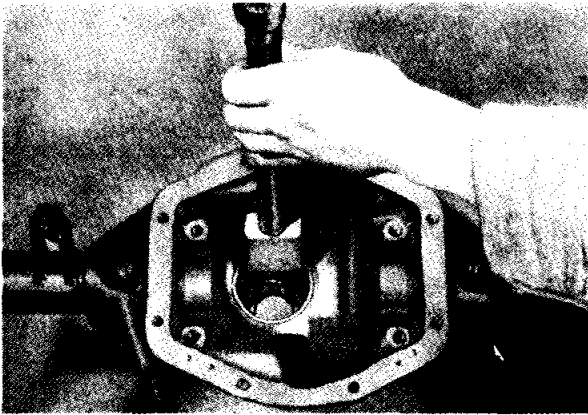

Fig. 16 Driving out pinion bearing outer rings utilising Churchill Tool No. 20SM FT71.
- (m) Drive out the pinion outer rings as shown in Fig. 16. The removal of the outer ring of the tail bearing will also eject the oil seal and tail bearing inner cone. The ejection of the head bearing outer ring will uncover the shims fitted between this and the casing.